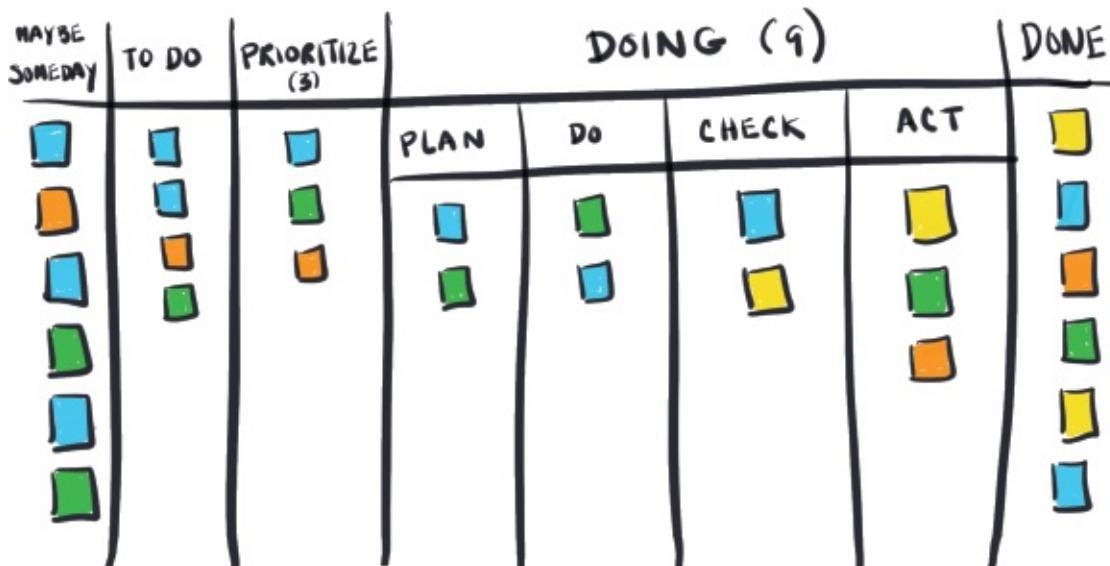

Figure 31. Plan-Do-Check-Act Board
W. Edwards Deming, author of *Out of the Crisis*, is the man who, in the 1950s, taught hundreds of Japanese engineers and businessmen statistical process control (SPC) and concepts of quality. Japanese manufacturers applied his techniques and went on to experience unheard of levels of quality and productivity. Deming used an iterative, four-step approach for change, problem solving, and continuous improvement of processes and products known as *PDCA* (*Plan-Do-Check-Act*). For the Edwards Deming fans, Figure 31 is an example of a PDCA board design that allows you to see work flow through these iterative states.